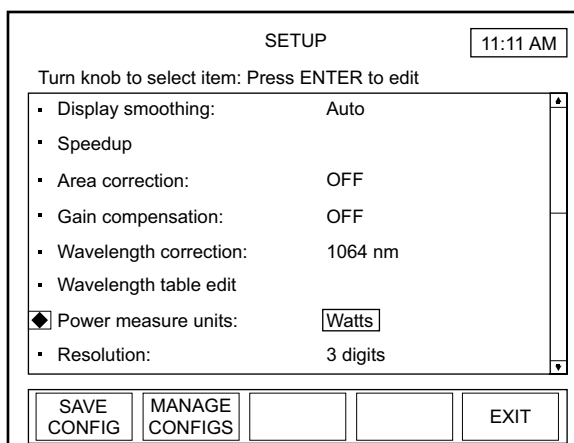

Figure 4-39. SETUP: Power Measure Units
2. Press the ENTER/SET button to highlight the value field (Figure 4-39).